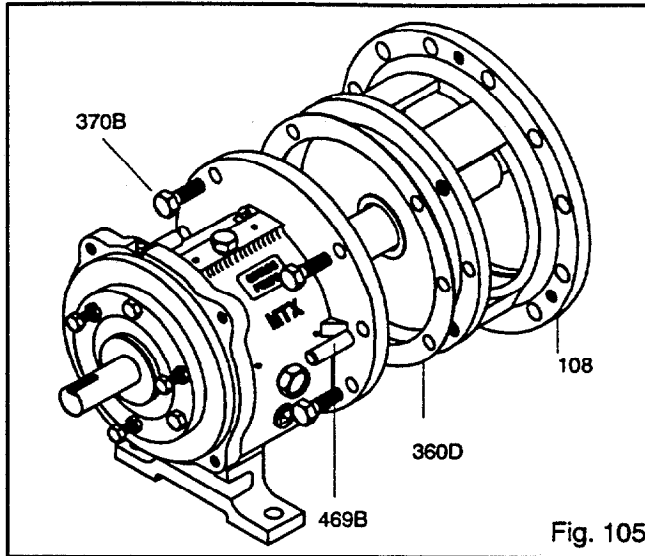

Fig. 105
5. Place manila gasket (360D) on frame (228) (Fig. 105).
6. Install frame adapter (108), onto frame assembly. Align bolt holes and dowel locations with those on frame (Fig. 105).